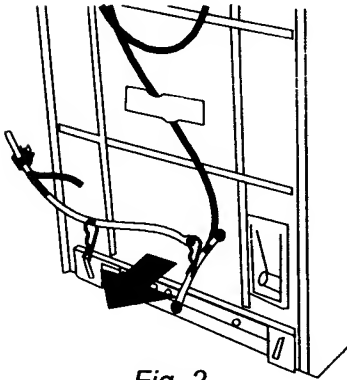

Fig. 2
- a. Carefully read, then remove the yellow label securing the power supply cord to the back of the washer. (Fig. 2)